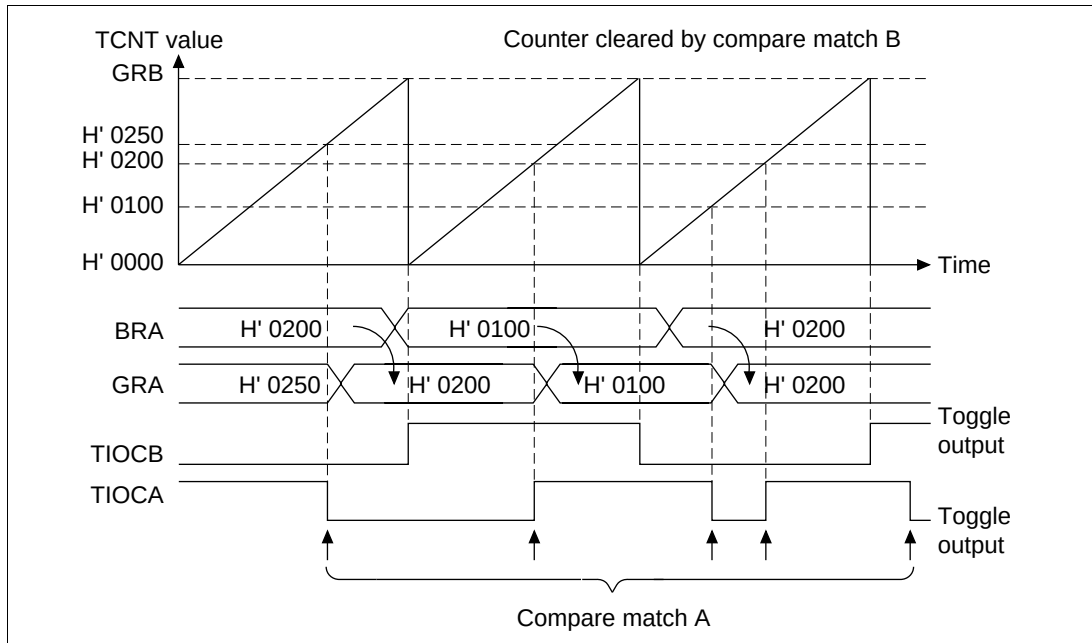
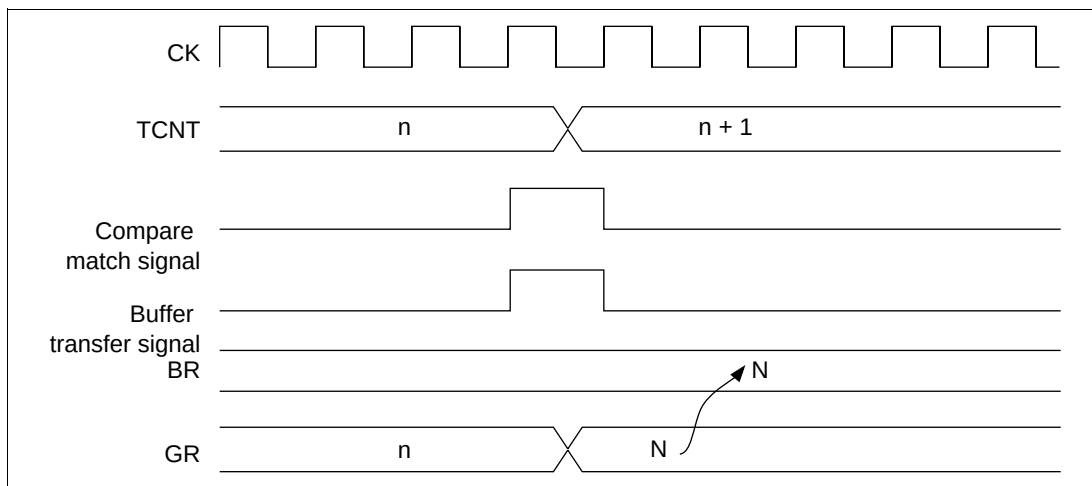

**Figure 10.48 Buffer Mode Operation Example 1 (Output Compare Register)**
**Figure 10.49 Compare Match Timing Example for Buffer Operation**
**Buffer Mode Operation:** Figure 10.48 shows an example of an operation in buffer mode with GRA set as an output compare register and GRA and buffer register A (BRA) set for buffer operation. TCNT operates as a periodic counter that is cleared by a GRB compare match. TIOCA and TIOCB are set to toggle at compare matches A and B. Since buffer mode is selected, when TIOCA toggles at compare match A, the BRA value is simultaneously transferred to GRA. This operation is repeated at every compare match A. The transfer timing is shown in figure 10.49.